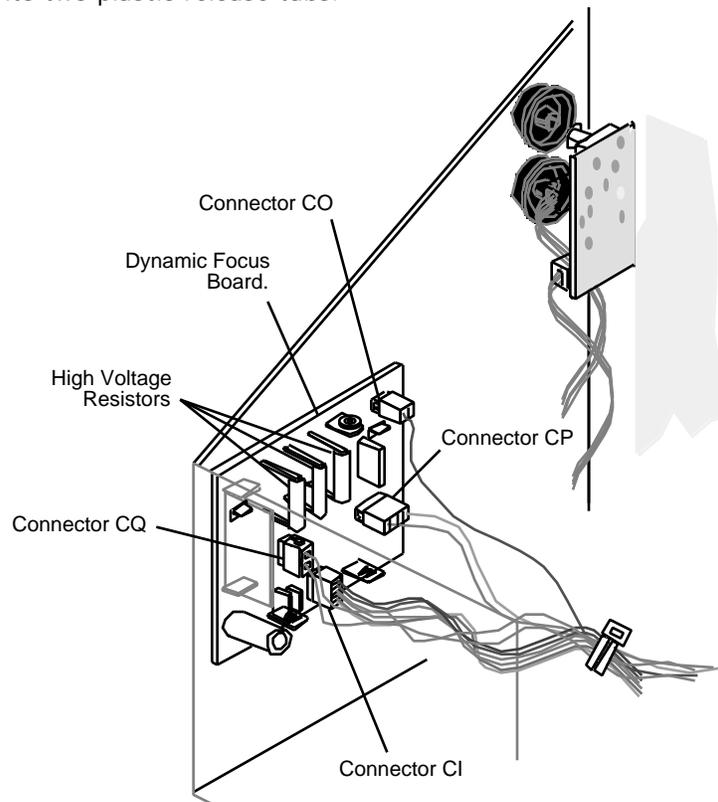

FIGURE 11
WARNING: When removing connectors from the dynamic focus board, be careful not to touch resistors R517, R518, or R520 (Figure 11). These are high-voltage resistors.
3. Disconnect the following connectors from the dynamic focus board (Figure 11) :